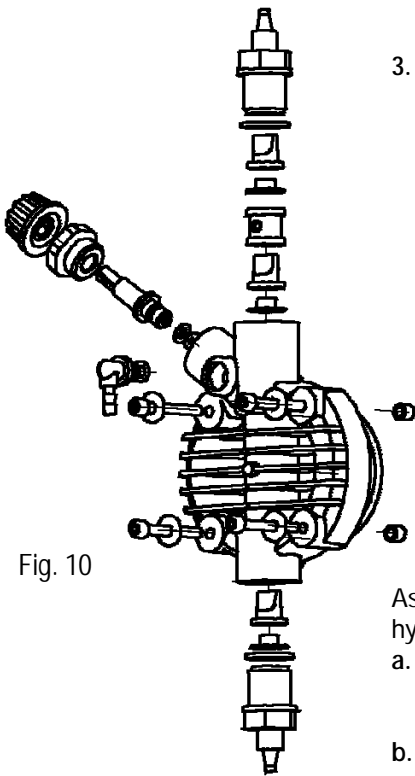

Fig. 10
2. Check pump operation, screw seals and gaskets every 6 months and for very aggressive liquids make more frequent checks and in particular monitor the concentration of the plant additive; a reduction in additive concentration could be determined by wear on the valves (in this case substitute the valves being careful to reassemble them as in Fig. 10) or by clogging of the filter which must be cleaned as follows.
To perform this operation when the equipment is not fixed to the plant, the pump can be pulsed for a few seconds (15-30) keeping it overturned and without piping connected to the fittings. If this is not possible disassemble and reassemble the pump body (Fig. 10), using the four fixing screws.
As the system is quite robust, normally there are no mechanical problems. Occasionally there might be a loss of liquid from the nipple because the tube nut has become loose, or more simply the outlet piping has broken. It is rare to detect losses due to a broken membrane or due to wear on the membrane seal gasket. In this remote case, the components must be substituted by removing the four screws on the pump body (Fig. 10), when the screws are reassembled tighten them equally to a maximum tightening torque of 180÷200 Nxcm. Once the liquid loss is repaired, clean the dosing pump of any additive residues which could attack the pump body.